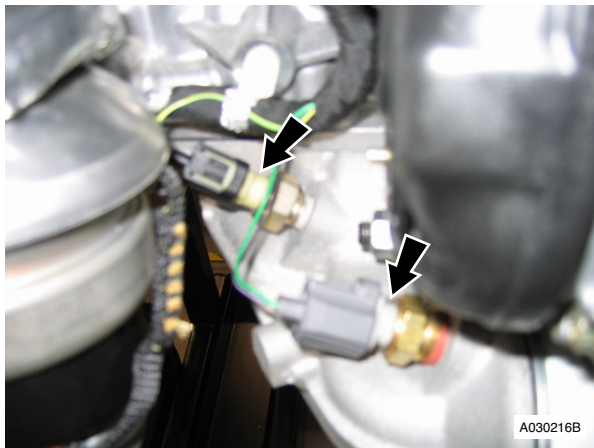

Fig. 10
26. Disconnect multiplugs (x2) oil pressure and temperature switches (see Fig. 10).